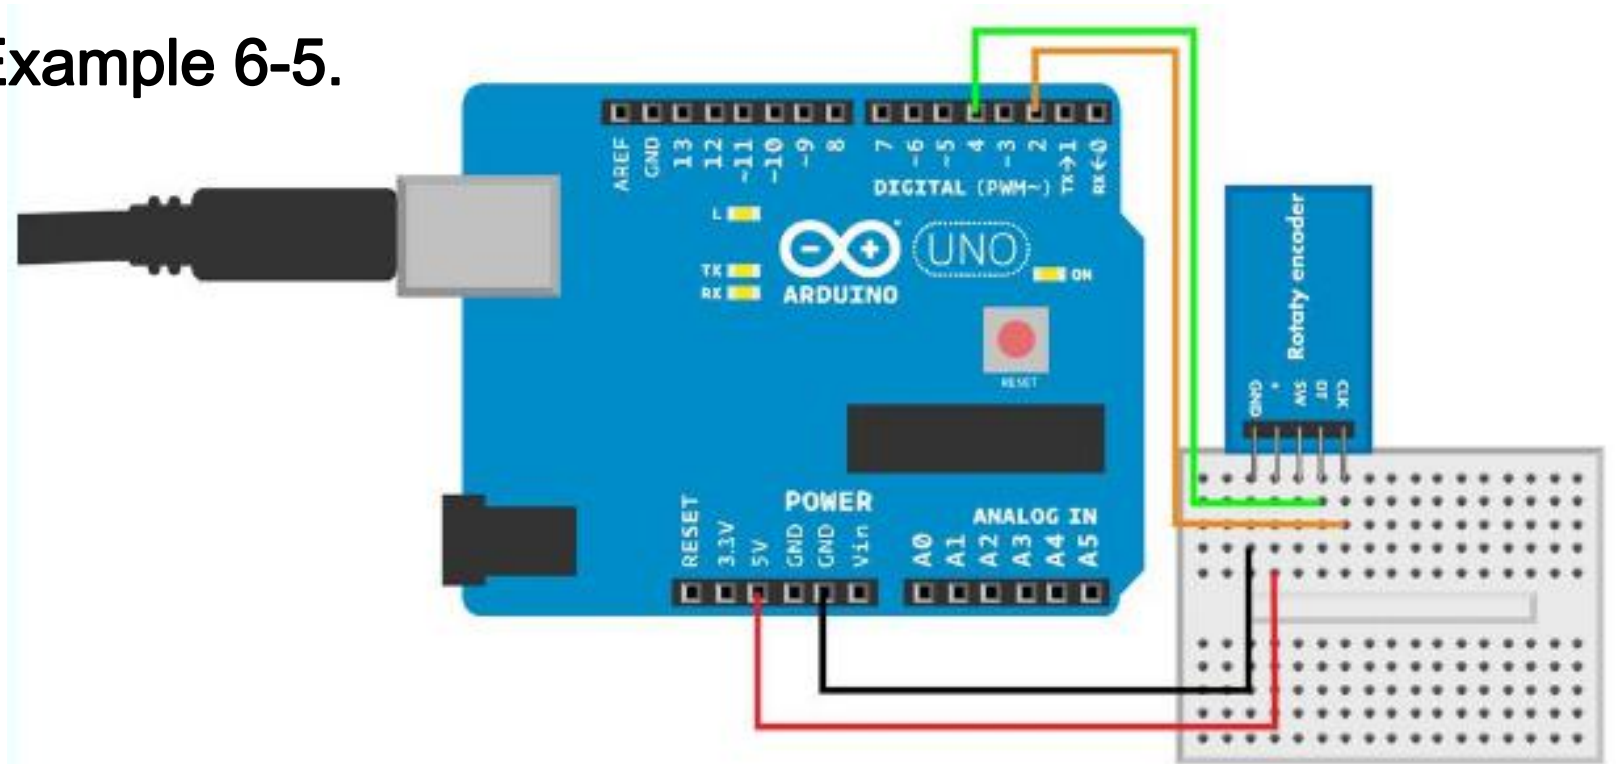

Figure 6-8. Rotary encoder circuit for Arduino
- This code uses interrupts, so it might look different from the Arduino codes you've worked with before. Wire up the circuit as shown in Figure 6-8, and run the sketch shown in Example 6-5.